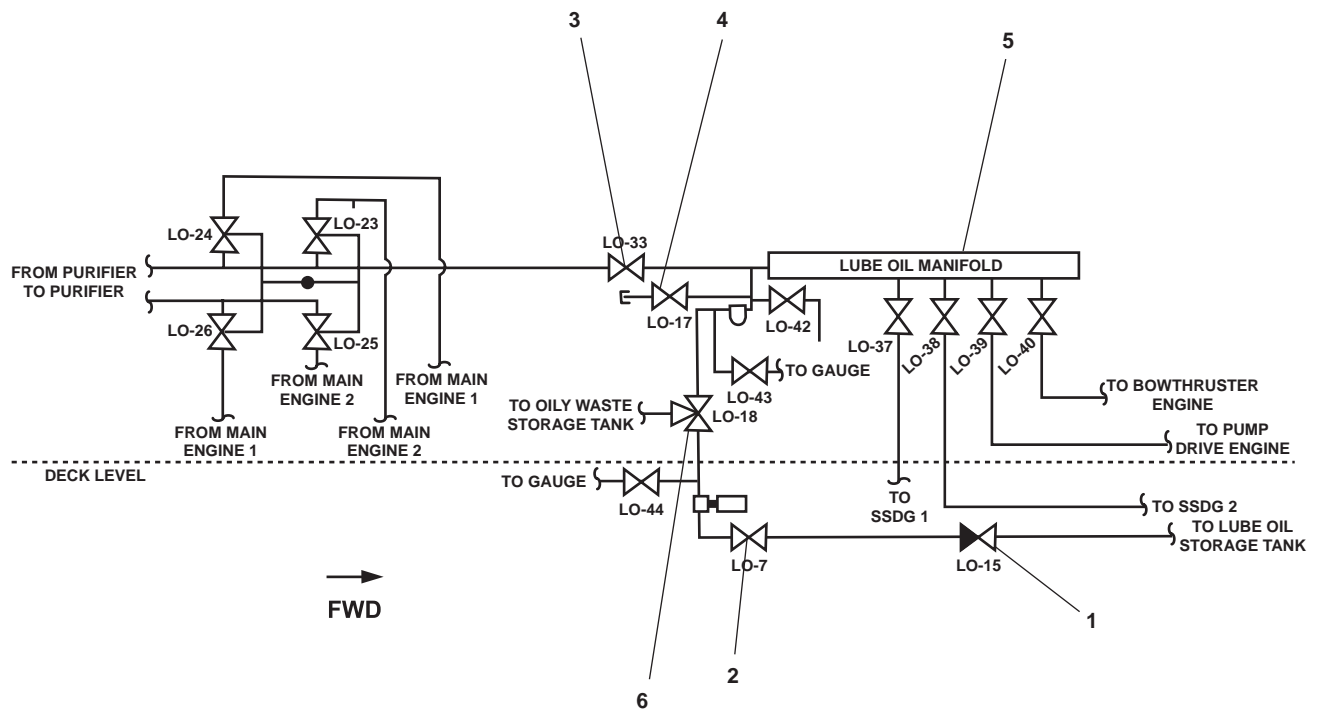

Figure 7. Lube Oil Manifold and Circuit Valve Locations
- (1) Lo-15, LUBO STOR. TK. OUT. (figure 7, item 1), located in the engine room, on the port side, below deck level.
- (2) LO-7, C.O.V. - LUBO XFER PMP. SUCT (figure 7, item 2), located in the engine room, on the port side, below deck level.
- (3) LO-33, LUBO TO MAIN ENGS (figure 7, item 3), lube oil manifold isolation valve.
- (4) LO-17, BKT. FILL CONN (figure 7, item 4).
- (5) All valves on the lube oil manifold (figure 7, item 5).
- b. Line up LO-18, LUBO SPLY (figure 7, item 3) to the manifold position.